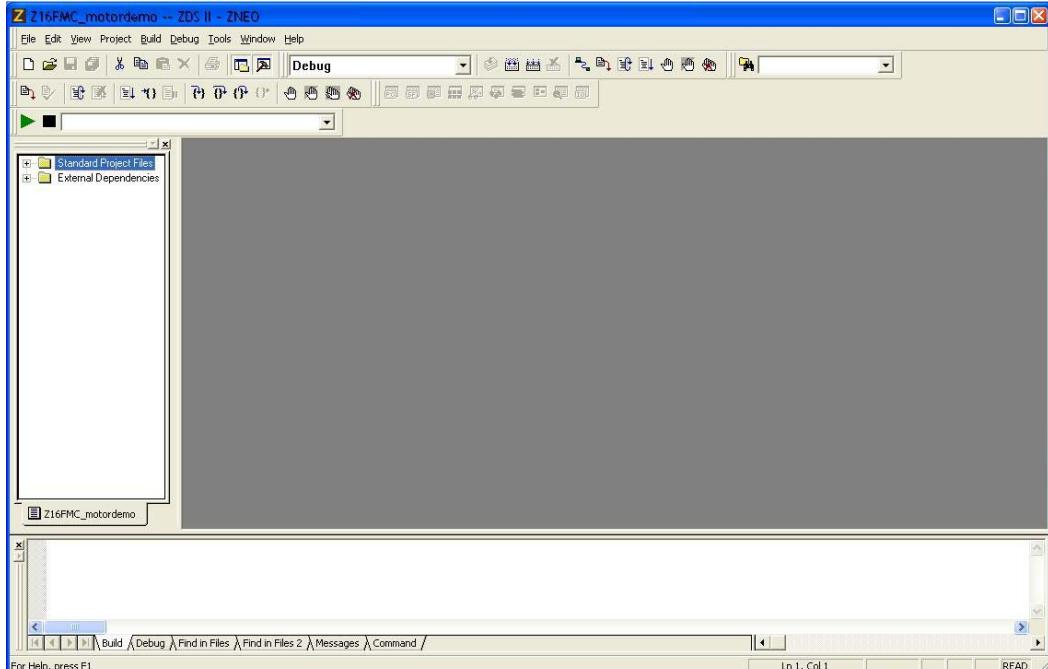

Figure 4. Zilog Developer Studio II Opening Screen
6. Select the **z16FMC_motordemo.zdsproj** file and click **Open**. The initial ZDSII program screen opens (see Figure 4). To view the project source files, double-click the **Project Files** folder on left side of the IDE interface. Double-click an individual file to open the file in the ZDSII file editor.